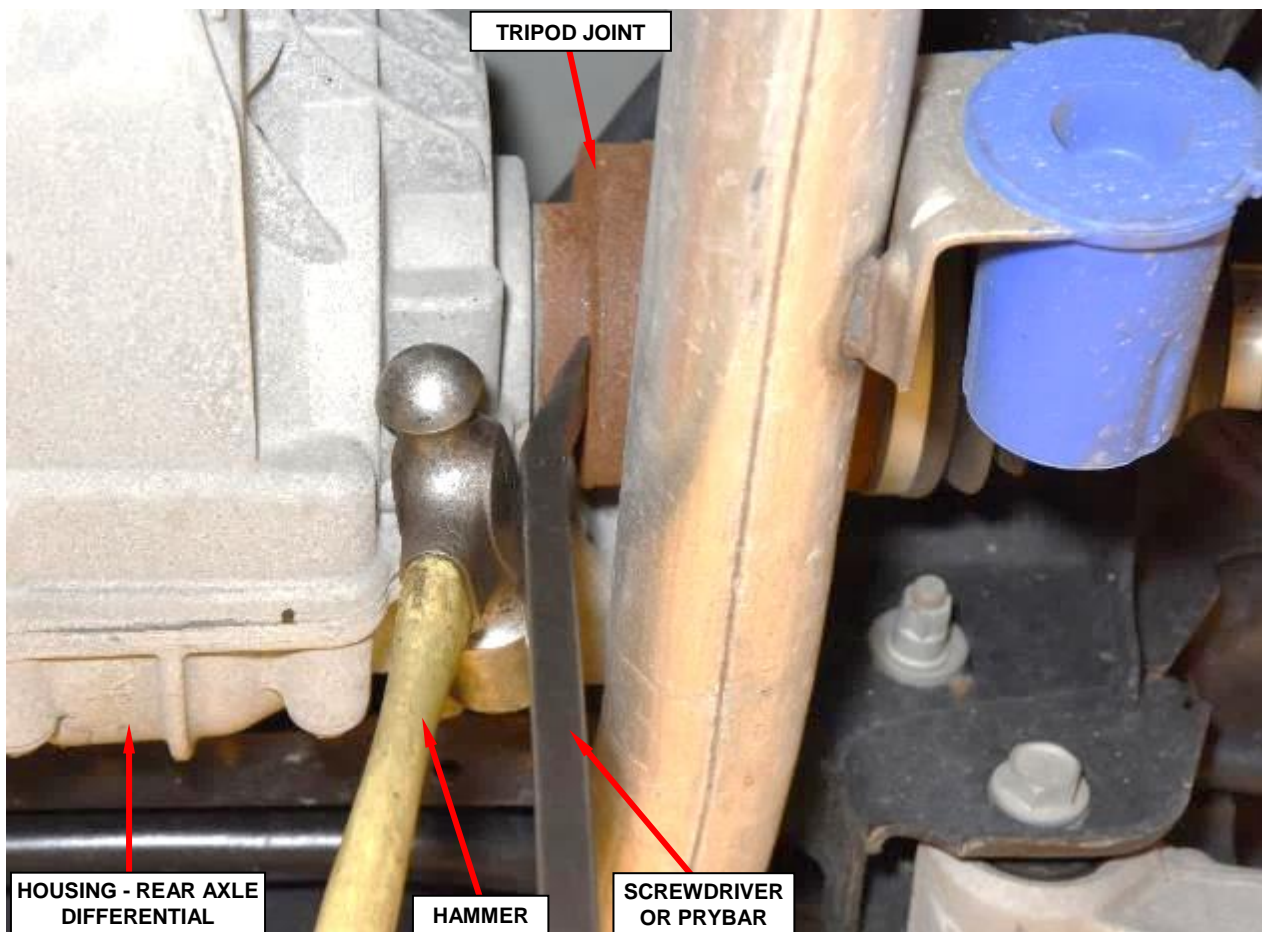

Figure 9 – Halfshaft Inner Tripod Joint
15. Using a hammer or similar tool as a pivot point and a suitable screwdriver or prybar, carefully disengage the halfshaft inner tripod joint circlip from rear axle differential side gear (Figure 9).